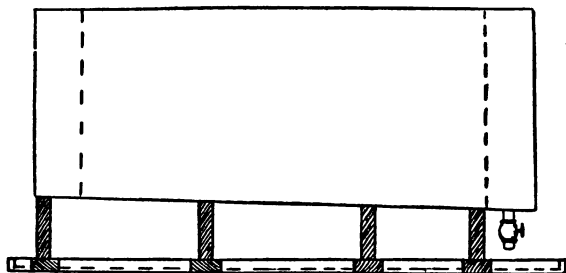

FIG. 75. SECTION OF REFRIGERATING TANK.
**A FREEZING HOUSE.**—In some instances it is required to have a freezing temperature in the cold storage room. Poultry, dressed and frozen, and shipped in tight cases, has given good returns. This low temperature is secured by means of galvanized sheet iron tanks, Figs. 75, 77, 78, which are packed with broken ice and salt. From the surface of these tanks the cold is radiated directly into the room; hence, the larger the